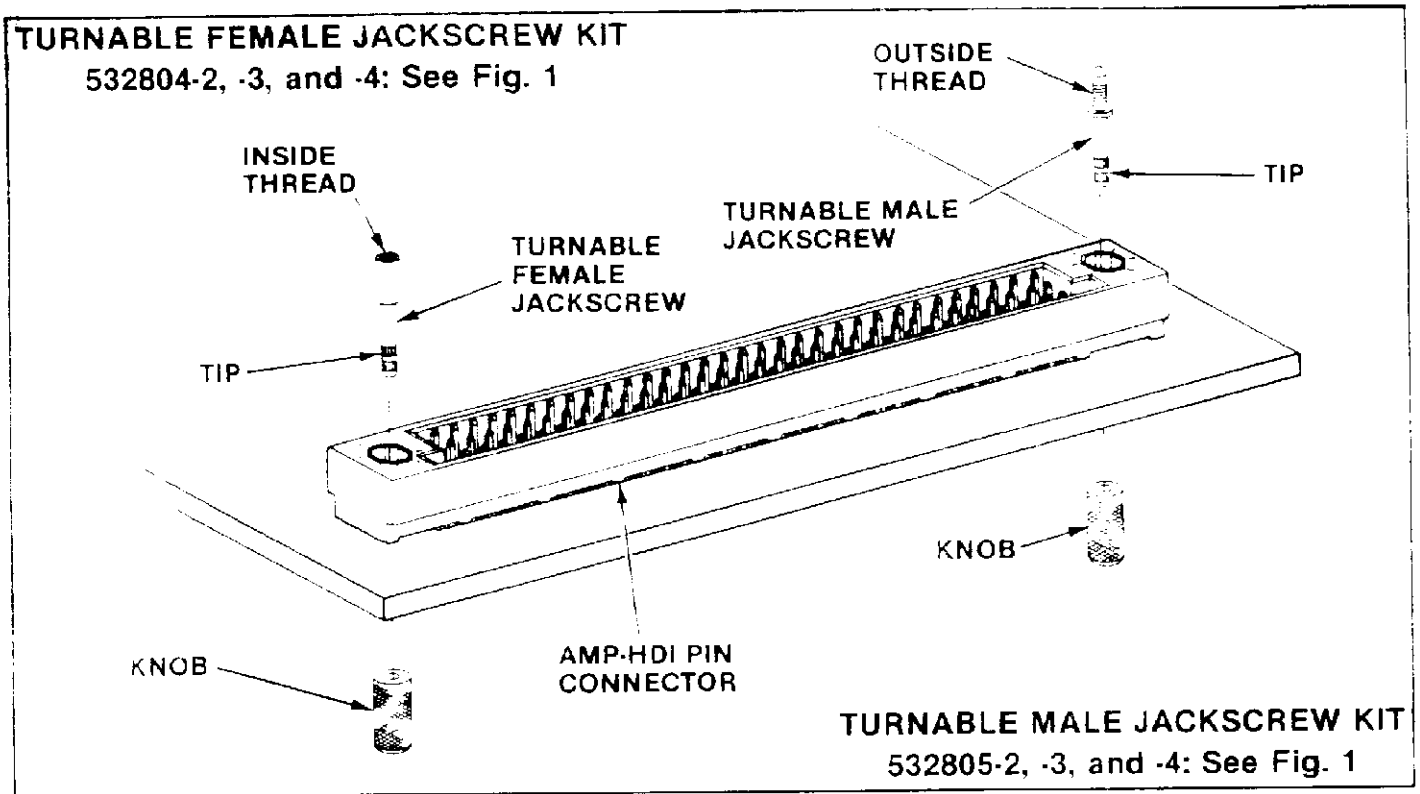

Fig. 3
5. Assemble each turnable kit by first inserting the jackscrew tip into the top of the pin connector as shown in Figure 3.